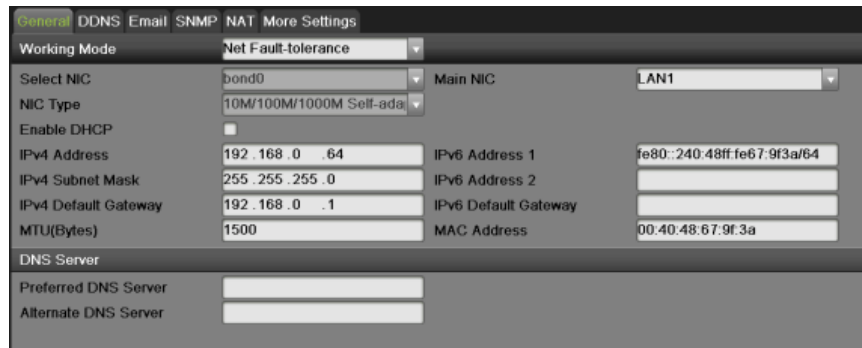

Figure 74 Network Settings Menu
2. Select the General tab. The current network settings are displayed on the right side of the menu, shown in Figure 74.